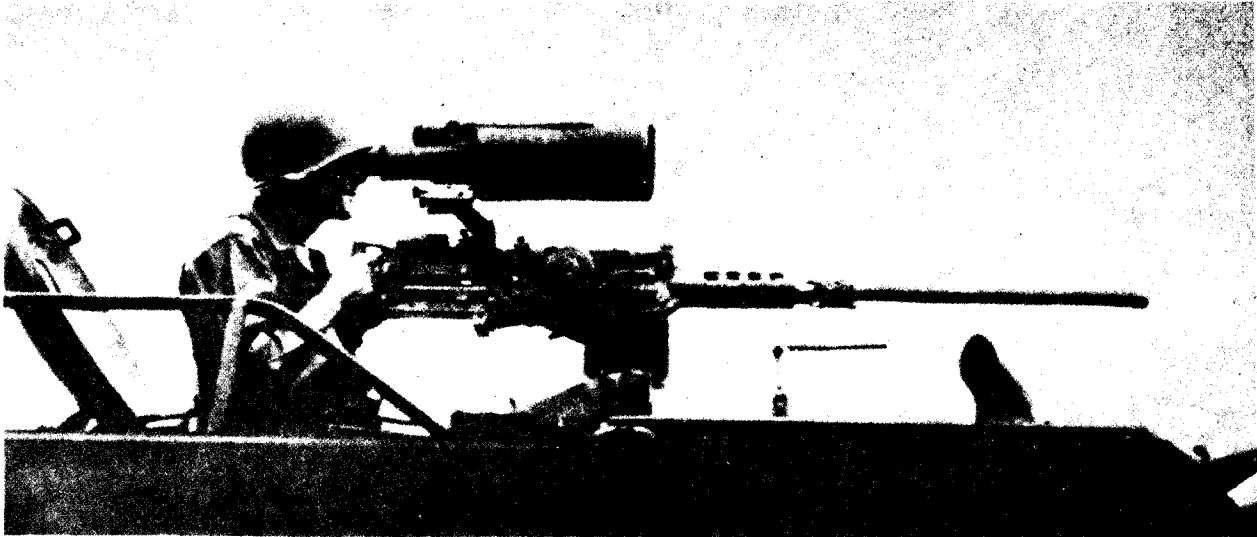

Figure 19. Gunner's position, caliber .50 machinegun (turret mount M113).
- (3) *M113 turret mount position (fig 19).* Place both hands on the spade grips, move body forward, and lock elbows into sides with chest against the spade grips. Place the right eye against the rubber eyeshield. Brace the body and arms firmly and aim low on the target, as the muzzle has a tendency to rise during firing.